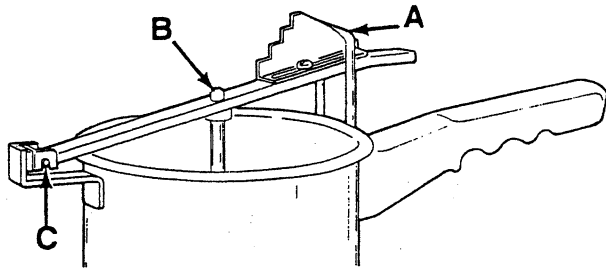

Figure 5
7. Assemble the activating levers through the lever stop "A". Guide the plunger rod into center hole "B". Push down against the springing action of the plunger, then guide the ends of the levers into the slots "C" at the rim of the container (see Figure 5).